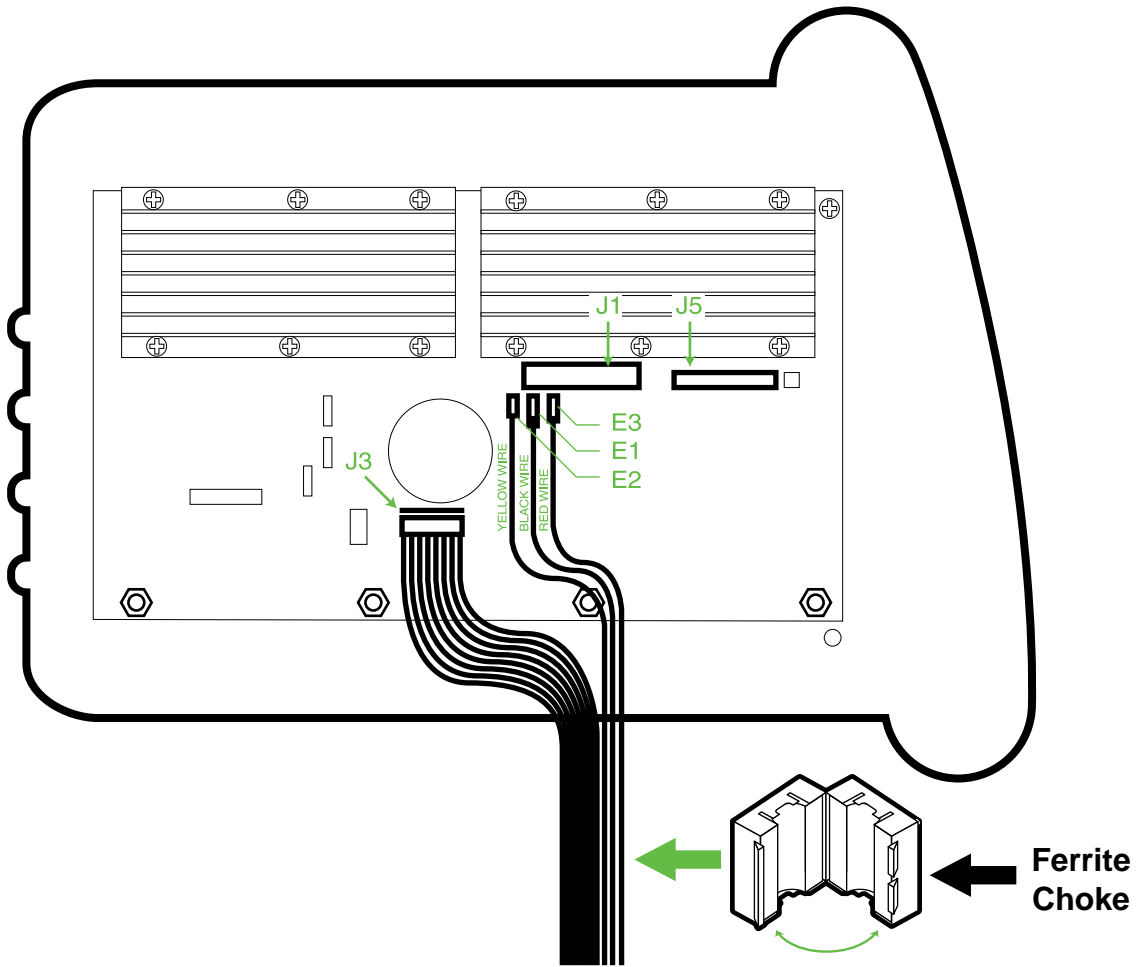

Figure 5-25. Power Supply PCBA
12. Remove connectors J5 and J1 from the power supply as indicated in Figure 5-25.
15. Move the right cover away from the ventilator and connect the cables coming from the docking bay to the power supply as indicated in Figure 5-25 and in accordance with the following: